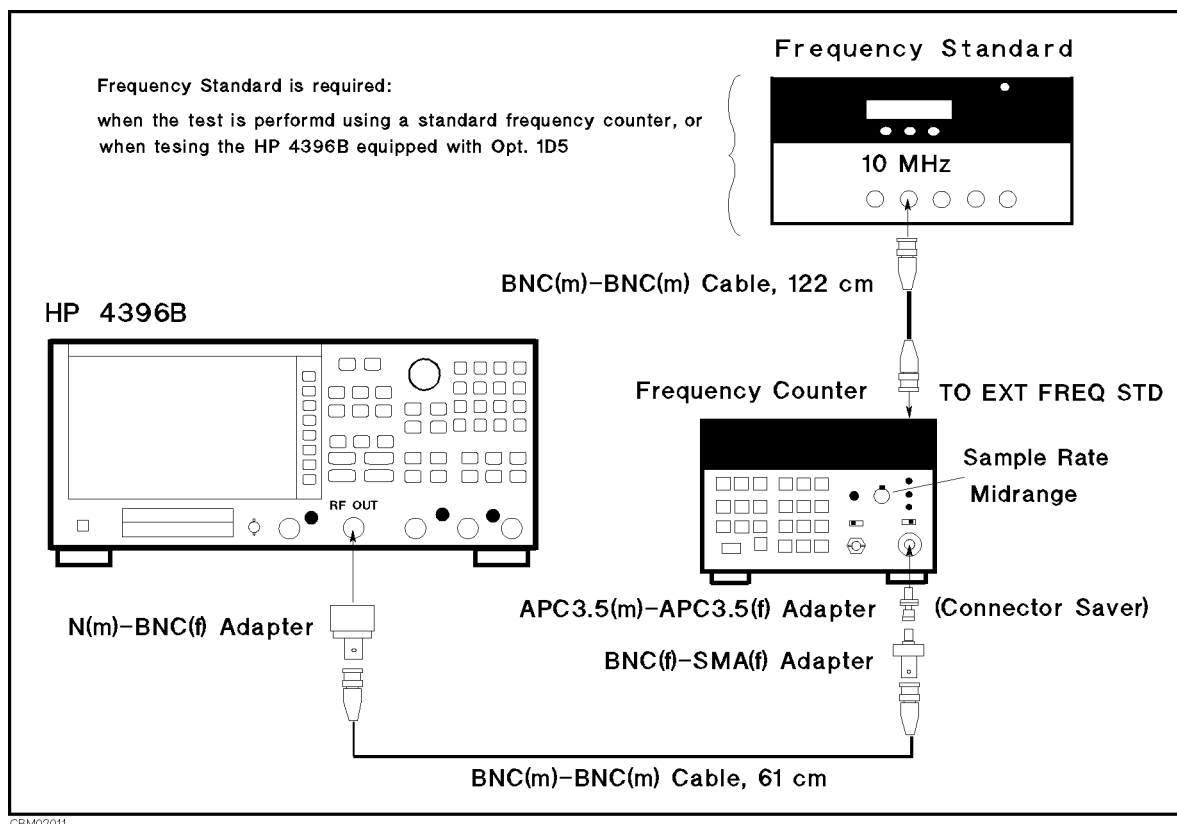

Figure 2-1. Frequency Accuracy Test Setup
1. Connect the test equipment as shown in Figure 2-1.
For testing an 4396B equipped with Option 1D5, connect a BNC(m)-BNC(m) cable between the EXT REF input connector and the REF OVEN connector on the 4396B rear panel. Then connect the frequency standard's 10 MHz connector to the frequency counter's EXT FREQ STD connector as shown in Figure 2-1.
An APC 3.5(m)-APC 3.5(f) adapter is used between the BNC(f)-SMA(f) adapter and the 5343A's APC 3.5(m) input connector to protect the 5343A's APC 3.5(m) input connector. In Figure 2-1, the SMA connector of the BNC(f)-SMA(f) adapter is mated with the APC 3.5 connector of the different type.